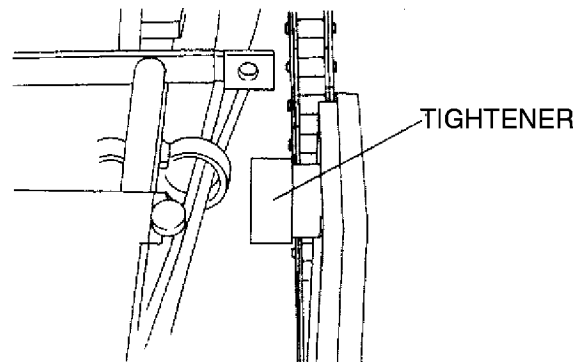

Figure 31. Chain Tightener
2. Check the chain tension and if loose, adjust the chain tension with the tightener (Figure 31). Chain tension should be adjusted every 50 hours of operation.